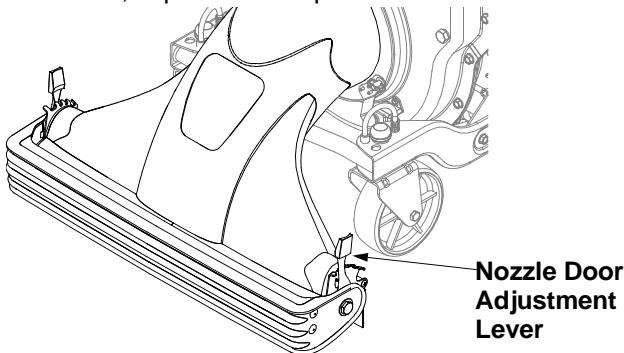

Figure 9
- Slide the height adjustment lever forward or backward for adjusting the nozzle door upwards or downwards. Height must be adjusted equally. In general, raise the nozzle to vacuum a thick layer of leaves and lower the nozzle for smooth surfaces. See Figure 9.